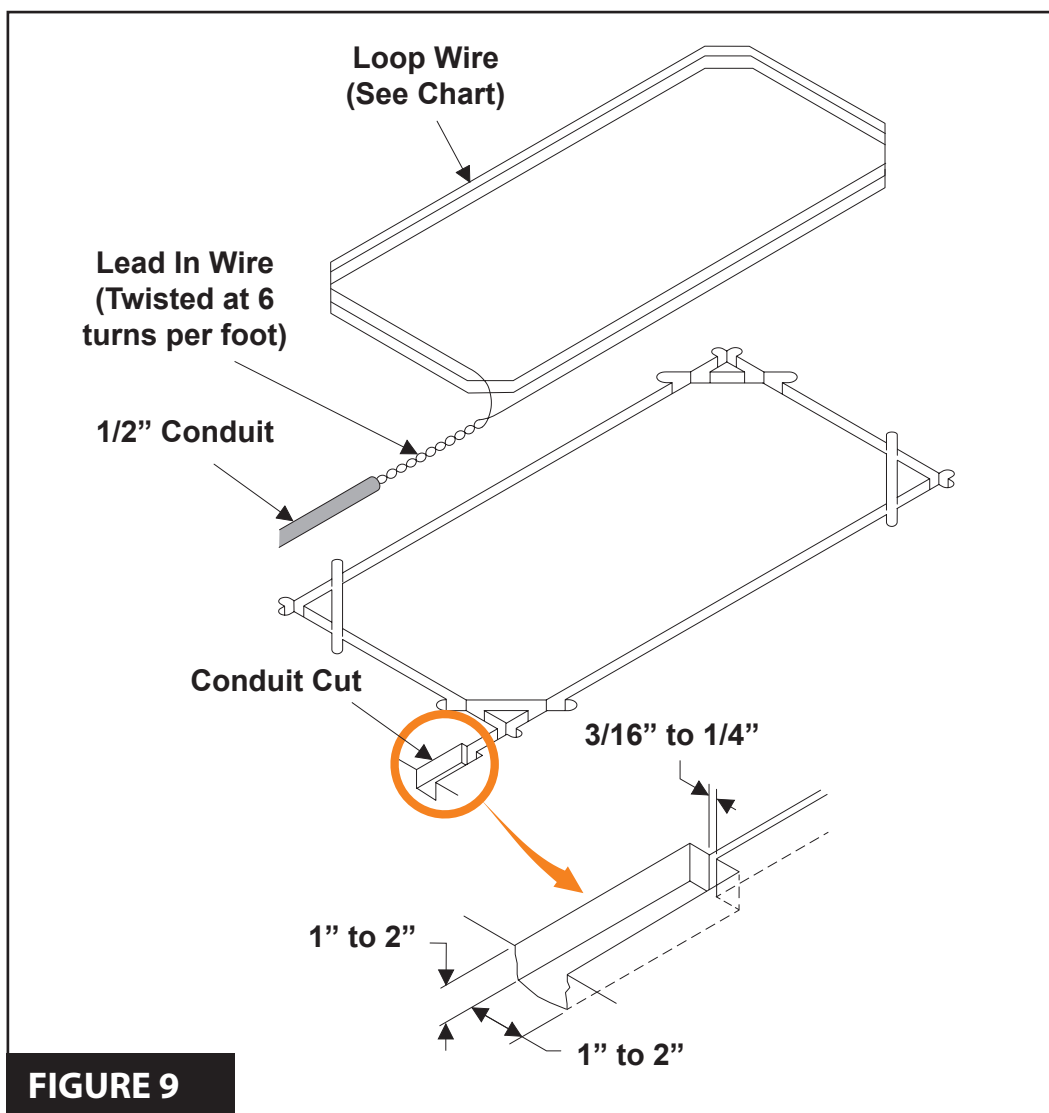

FIGURE 9
- Cut the required groove at the locations laid out in **Step#1** according to the diagram below (**Figure 9**).